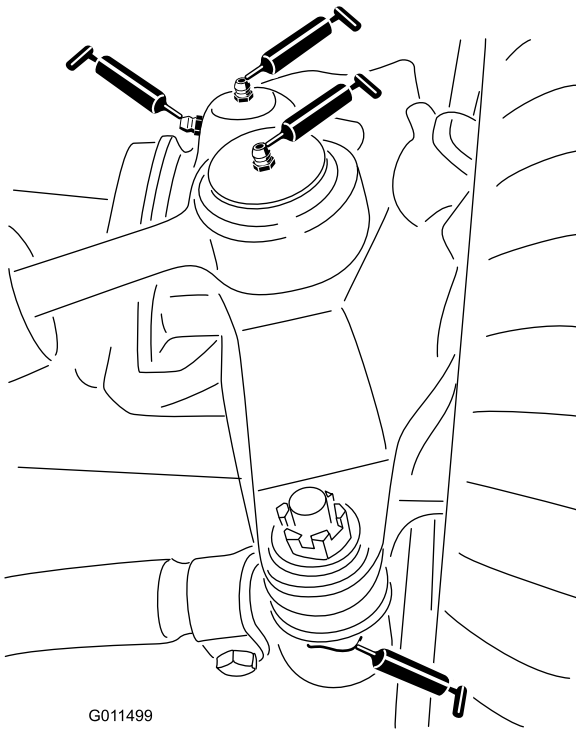

Figure 40
- 2 steering-cylinder-ball joints (Figure 40)
- 2 tie-rod-ball joints (Figure 40)
- 2 king-pin bushings (Figure 40).